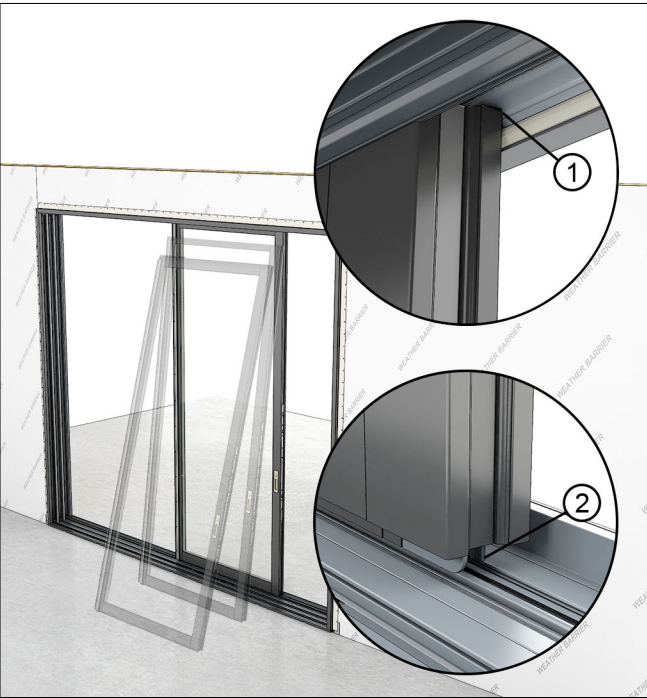

Figure 82
1. Install the primary operating panels or inactive panels first. Lift the top of the panel into the interior most head jamb track. Then swing the bottom over the sill track until centered over the roller guide. Set the panel gently onto the guide. See Figure 82.